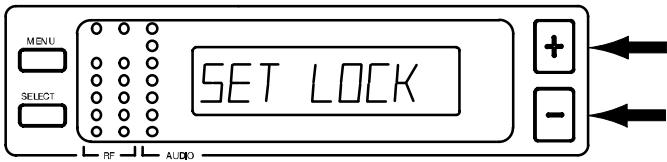

FIGURE 30
- Press either the + or – button to reach the “SET LOCK” display, as shown in Figure 30.